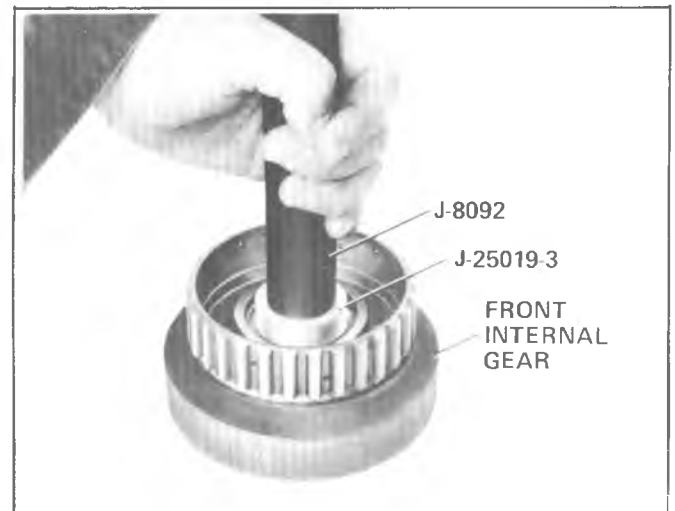

Fig. 7A-178A--Removing Front Internal Gear Bushing
2. Using tool J-25019-4 with Driver Handle J-8092, remove bushing (Fig. 7A-176A).